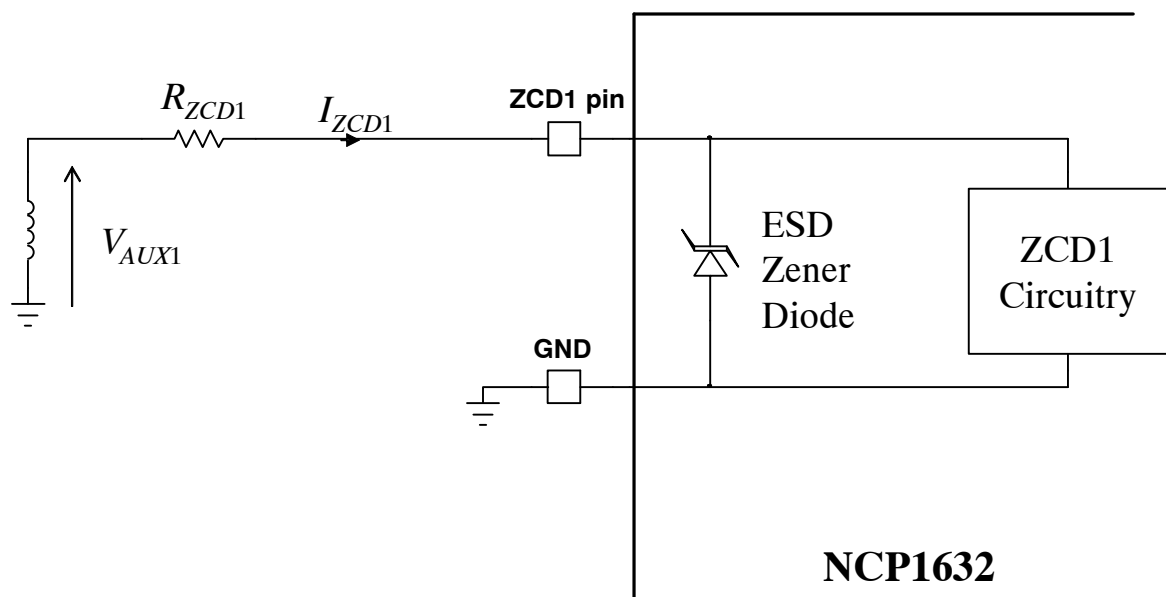

Figure 2. Limit the ZCD1 pin current ( $I_{ZCD1}$ ) between  $-5\text{ mA}$  and  $5\text{ mA}$  (the same is valid for the ZCD2 pin)
1. These maximum ratings (-0.3 V / 9.0 V) guarantee that the internal ESD Zener diode is not turned on. More positive and negative voltages can be applied to the ZCD1 pin if the ESD Zener diode current is limited to 5 mA maximum. Typically, as detailed in the Zero Current Detection section, an external resistor is to be placed between the ZCD1 pin and its driving voltage to limit the ZCD1 source and sink currents to 5 mA or less. See Figure 2 and application note AND9654 for more details. The same is valid for the ZCD2 pin.